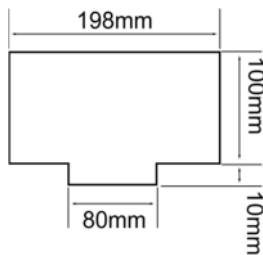

Figure 4 Schematic Diagram of the Reserved Space for the Rear Panel Wire Connections
2. Adequate space for wires connecting to the NPM must be reserved on the rear side of the unit. If the surface thickness is greater than 10mm, the space reserved for the wires must be about 80mm long and 10mm wide, as shown in Figure 4.